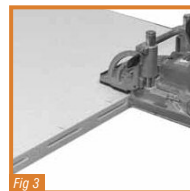

Fig 3
2. Using a biscuit joint, machine form pockets to suit No.20 biscuits. (Fig 3)